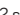

Fig. 4 Remote control key: keys.
- Locking: press the button  **»» Fig. 4.**
- Locking the vehicle without activating the anti-theft system: Press the button for a second time  **»» Fig. 4** within 2 seconds.
- Unlocking: press the button  **»» Fig. 4.**
- Unlock the trunk lid: hold down the  **»» Fig. 4** button for at least 1 second.
To lock/unlock, press the button  or button  »»» **Fig. 4** on the remote control key.